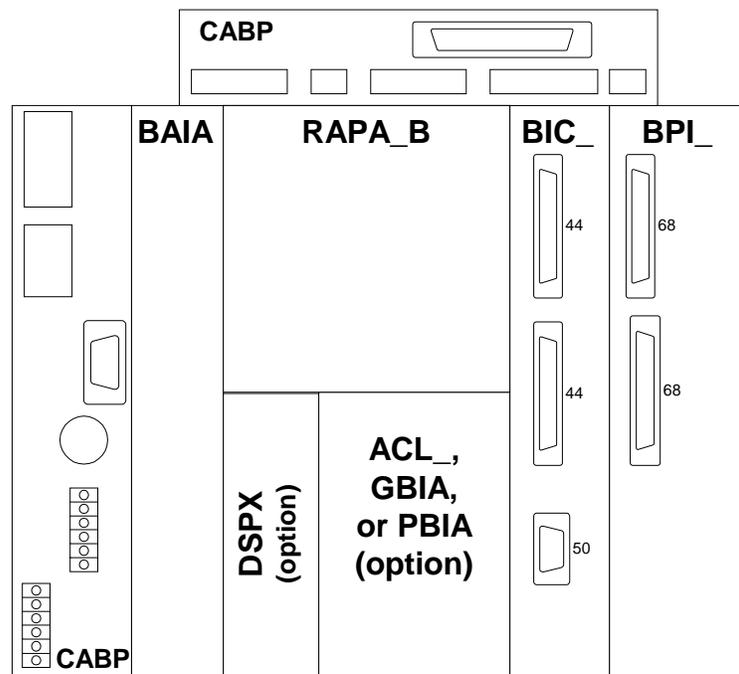

Figure 4. Board Locations
1. Slide the board into the **correct slot** in the rack (see Figure 4).